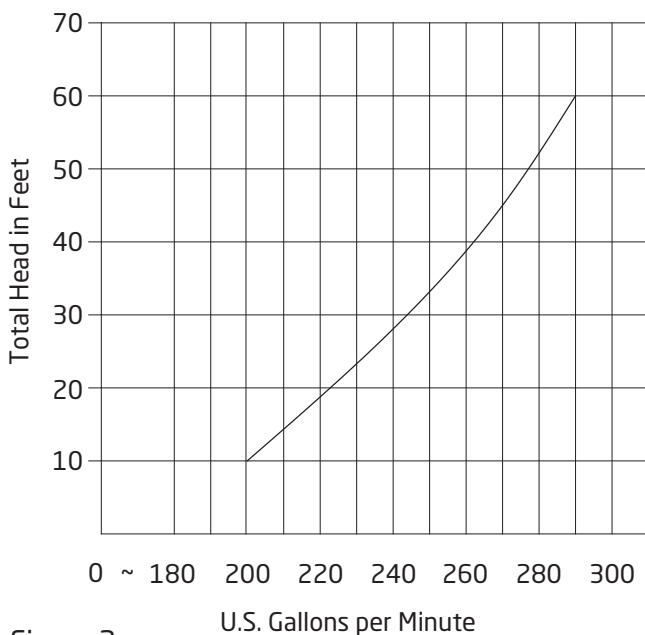

Figure 2
- For optimal performance, use 4" plumbing when the total distance between the pump and jet housing is 30 ft or less. The plumbing should be as direct and free from turns or bends as possible because **elbows and other fittings can create large friction losses and reduce the performance of the system. The shortest length of pipe with the minimum number of fittings possible should be used to avoid any significant friction loss due to the pipe and fittings.** NOTE: Refer to Figure 2 for the BaduStream head loss curve.